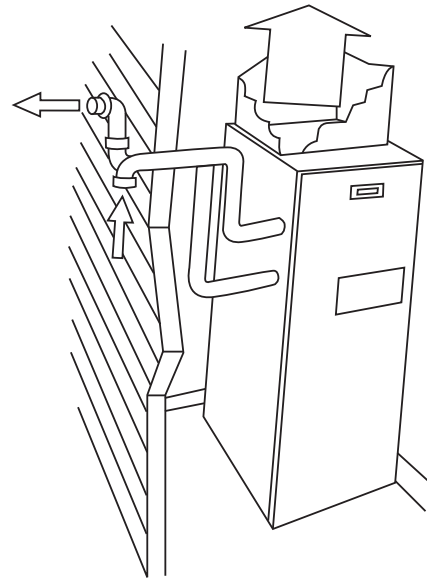
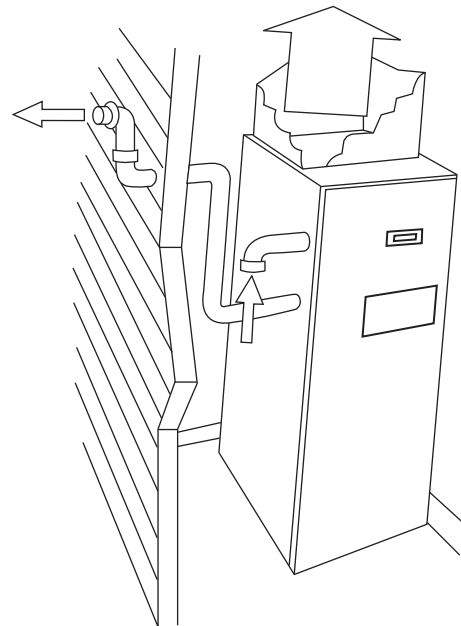

Fig. 1 - Exterior Vent Pipes
Fig. 2 - Interior Combustion - Air Pipe
- Your new gas furnace may have been installed in 1 of 2 ways, as a direct-vent (2-pipe-Fig. 1) application or as a non-direct vent (1-pipe-Fig. 2) application.
- In a direct-vent (2-pipe) application, your furnace uses air from outside the home for combustion and vents flue gas to the outdoors. This type of application will have 2 pipes running from the furnace to the outdoors. (See Fig. 1.) In this application, the vent and air-intake pipes must terminate outside the structure and must not be obstructed in any way. Do not block or obstruct air openings on furnace or spaces around furnace.
- In a non-direct vent (1-pipe) application, your furnace uses air from adjacent to the furnace for combustion and vents flue gas to the outdoors. This type of application will have only 1 pipe running from the furnace to the outdoors. (See Fig. 2.) The other pipe will terminate in the same space as the furnace and is the source of combustion air for your furnace. Therefore, the furnace must not be enclosed in an airtight room or be sealed behind solid doors. It must have adequate airflow for efficient combustion and safe ventilation. Do not obstruct the combustion-air pipe in any way. The vent pipe must terminate outside the structure and must not be obstructed in any way. Do not block or obstruct air openings or space around furnace.